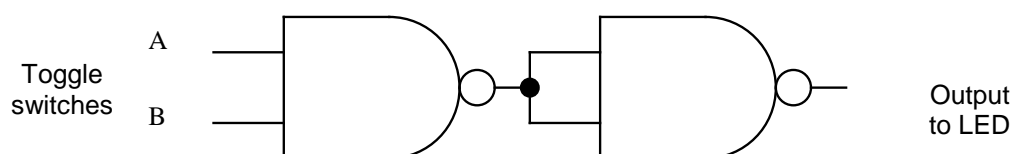

Figure 7. NAND gate equivalent circuit of an AND gate.
- 5.4.2 **AND from NAND:** Connect the circuit in Figure 7. Connect toggle switches to the circuit inputs. Connect an LED to the output. Show with a truth table that the circuit performs the AND function.